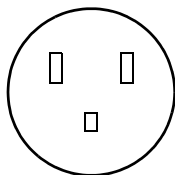

Figure 4-2 NEMA 5-15P Style Plug
- **United States and Canada requirements:** In the United States and Canada, the male plug is a NEMA 5-15P style and is UL listed and CSA certified. Figure 4-2 shows the plug. SVT cordage can be used with desktop, countertop, or rack-mounted units; all other equipment requires SJT cordage. Only SJT-type cord sets can be used for units that sit on the floor.